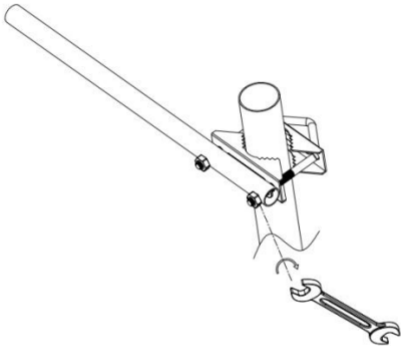

Figure 2-1: Crossbar mounting
- Install the U-bolts set and crossbar (optional) on a vertical pole as shown on figure 2-1: